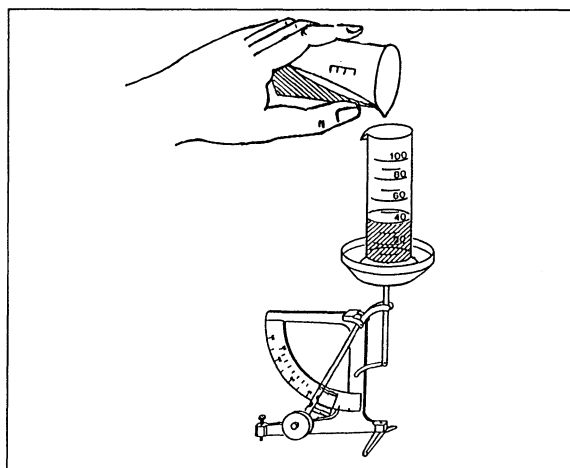

Fig. 2 ► 4.
- Pour 20 cm³ (ml) of water into the measuring cylinder ► Fig. 2.